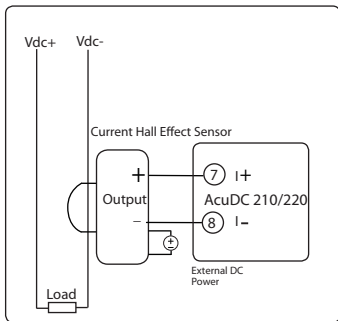

Fig 2.13 Current input wiring with Hall Effect Sensor
- 3) Hall Effect Sensor option (shown in Fig 2.13)